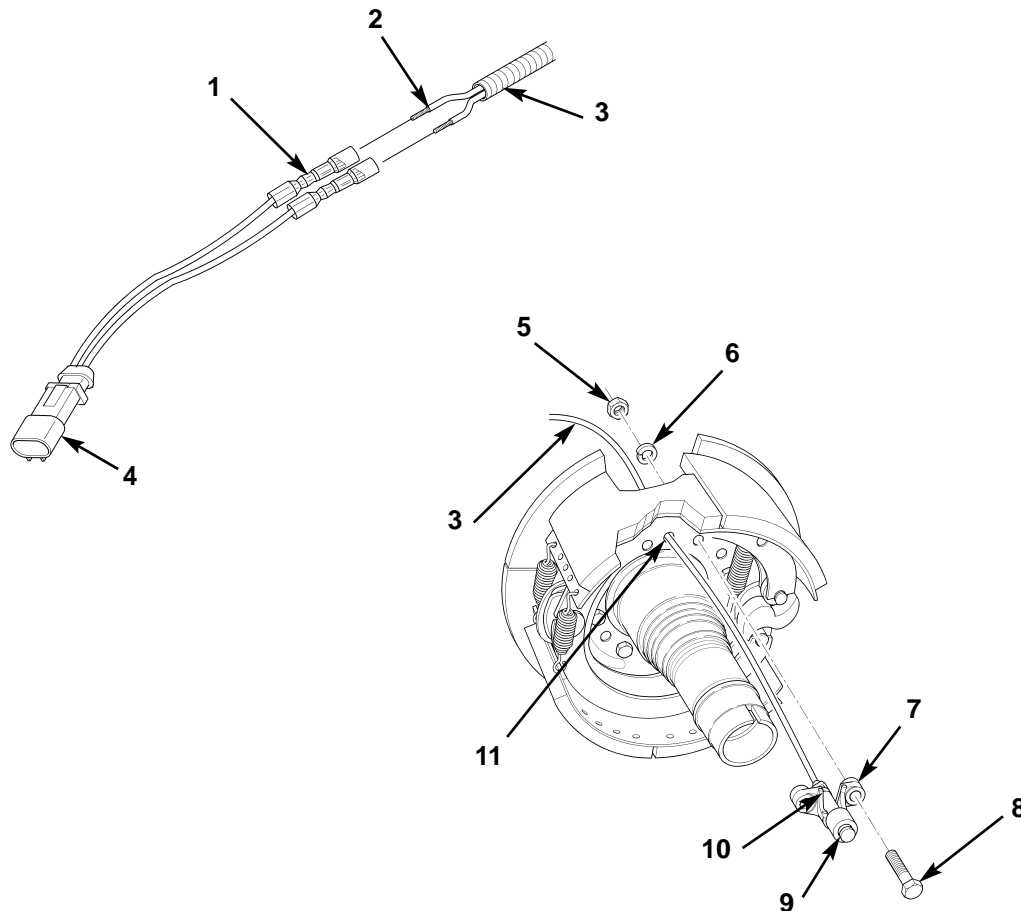

Figure 4. Removing Wheel Sensor and Mounting Bracket from Rear-Rear Axle.
2. Remove connector (figure 4, item 4) by cutting two wires (figure 4, item 2) on wheel sensor cable (figure 4, item 3) just in front of wire connectors (figure 4, item 1). Cut and discard both wire connectors (figure 4, item 1) from wires on connector (figure 4, item 4).
3. Remove two locknuts (figure 4, item 5), washers (figure 4, item 6), and bolts (figure 4, item 8) from mounting bracket (figure 4, item 7) and axle housing and brake spider (figure 4, item 11).
4. Carefully remove mounting bracket (figure 4, item 7) and wheel sensor cable (figure 4, item 3) from hole in axle housing and brake spider (figure 4, item 11).